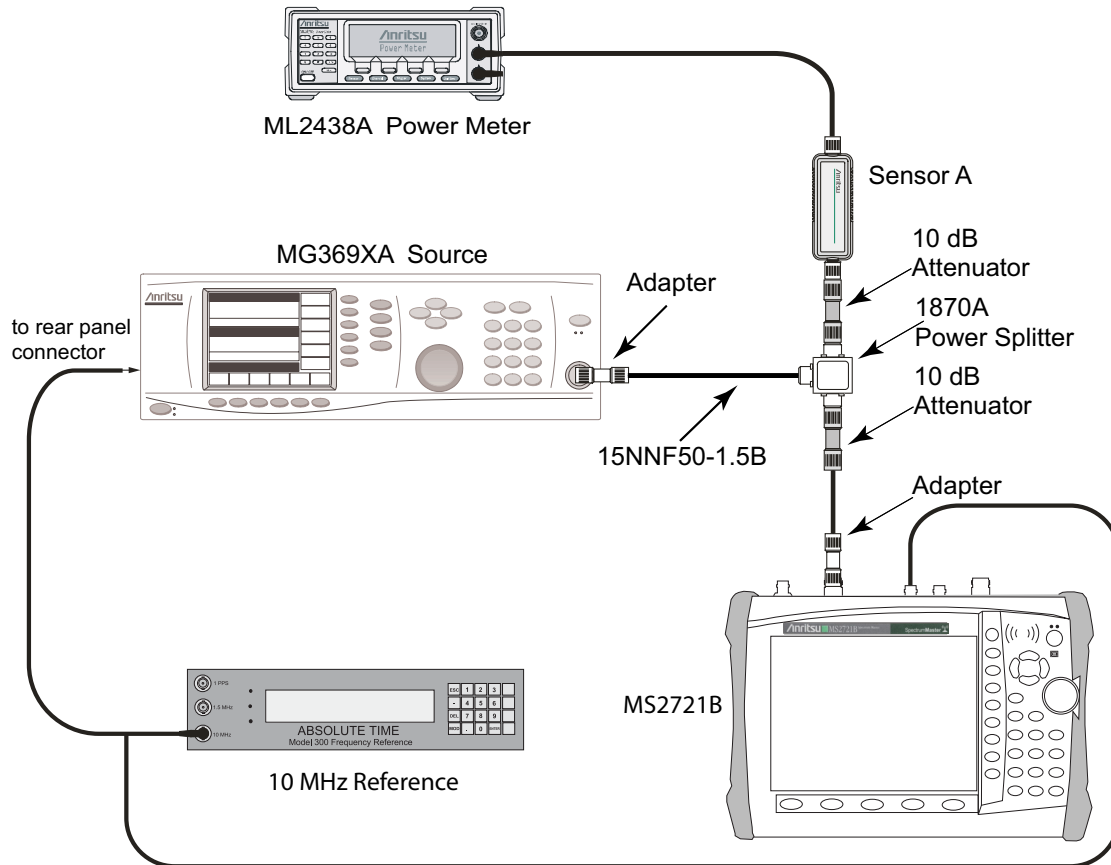

Figure 2-13. 9 kHz to 100 kHz Amplitude Accuracy Verification Test Setup
5. Connect the MS2721B to the test setup as shown in Figure 2-13.